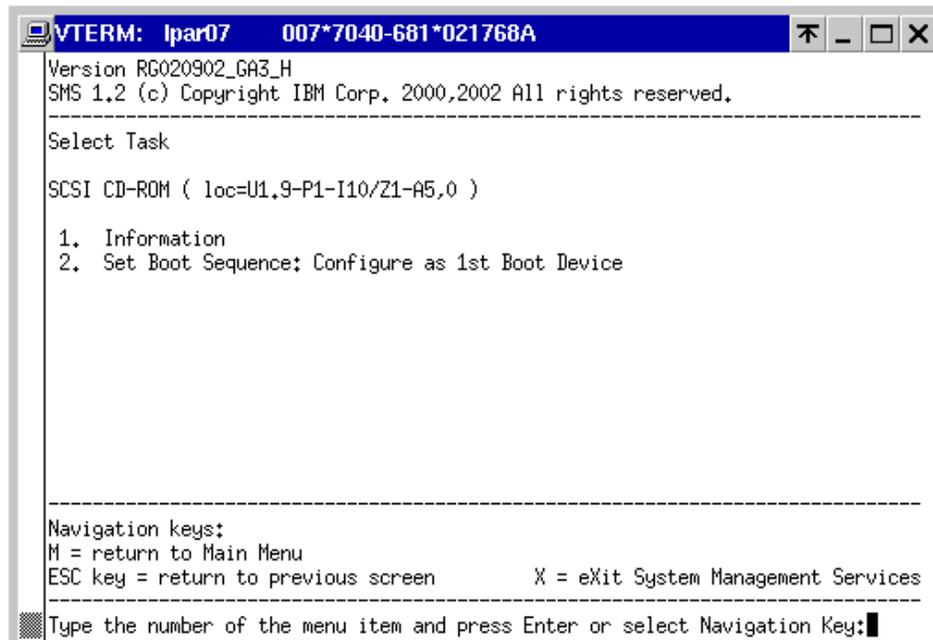

Figure 7-9 System Management Services: Select task
16. Type X to exit the SMS menu, as shown in Figure 7-9.